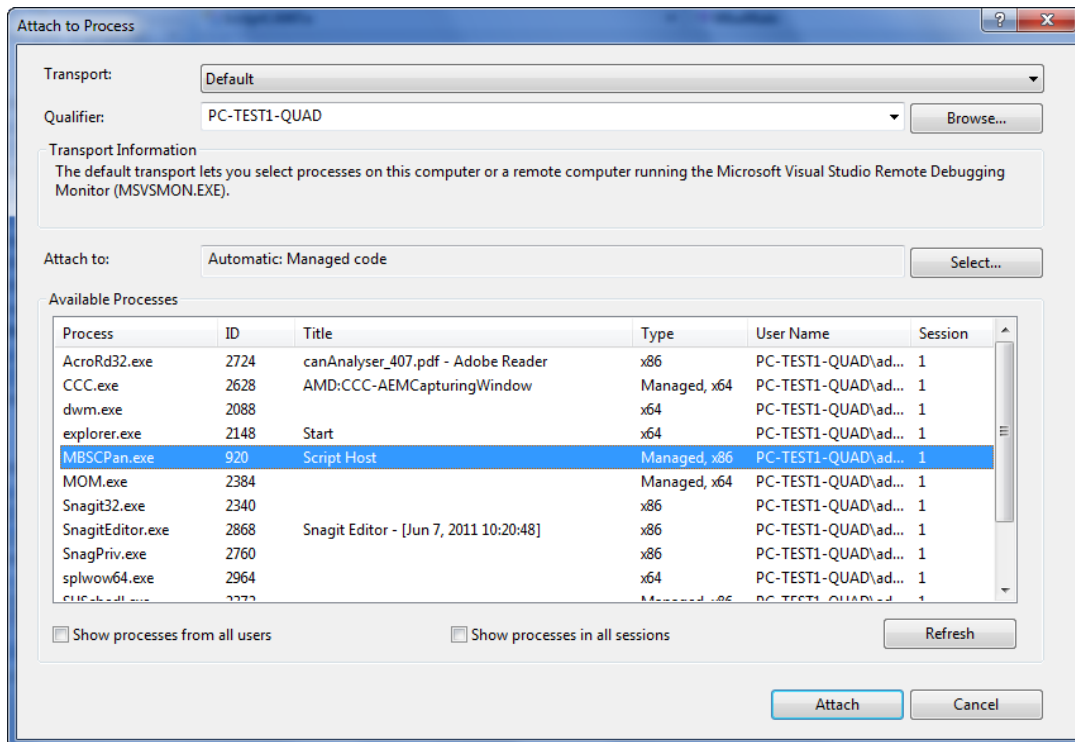

Figure 5.73: Attaching debugger to the canAnalyser
- In the displayed **Attach to Process** dialog (Fig. 5.73) select the canAnalyser process (MbsCPan.exe), and simply press the **Attach** button.